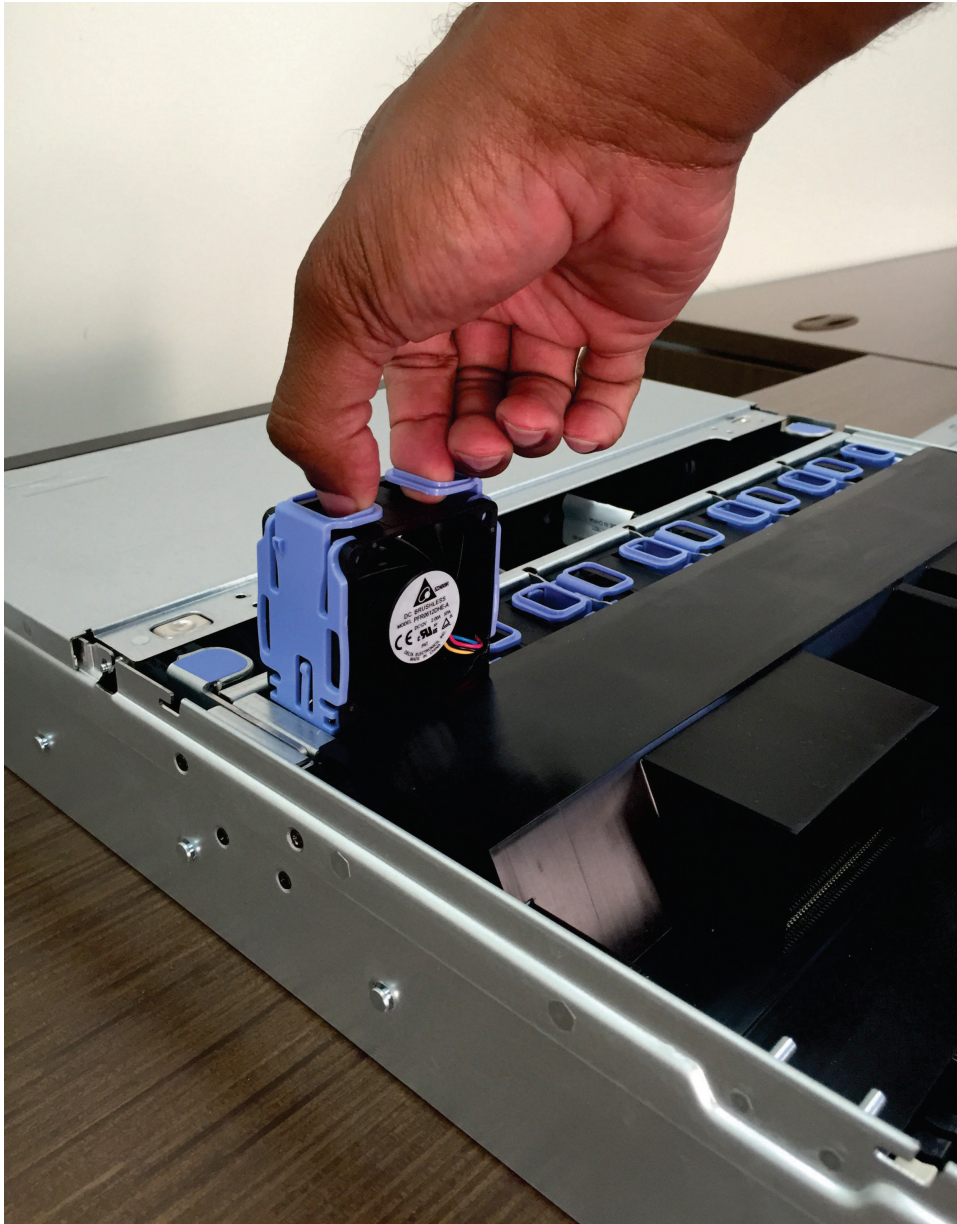

Figure 177. Replacing a 2145-SV1 fan
4. Insert the fan into the fan slot in the fan-assembly bracket, and press it down until it is seated, as shown in Figure 177 on page 215.